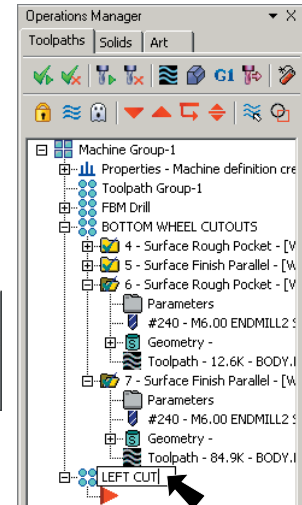

Fig. 66
Step 2. Rename the new Toolpath Group to **LEFT CUT**, Fig. 66.